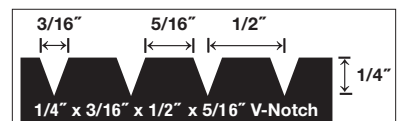

Figure 2
- 1/4" x 1/2" x 3/16" (6 mm x 13 mm x 8 mm) trowel (Figure 2)